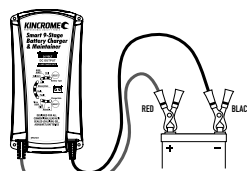

Fig 1
- If the battery is still **in the vehicle**, determine if the vehicle is positively or negatively earthed (Fig 1).
- FIRST Connect the RED (+) Crocodile clip or optional ring terminal lead to the (+) battery terminal and then connect the BLACK (-) Crocodile clip or optional ring terminal lead to the vehicle's chassis (Fig 1).